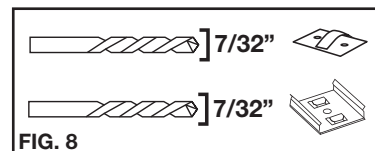

FIG. 8
3. Drill 7/32" pilot holes through each exposed screw hole. (See **FIG. 8**)